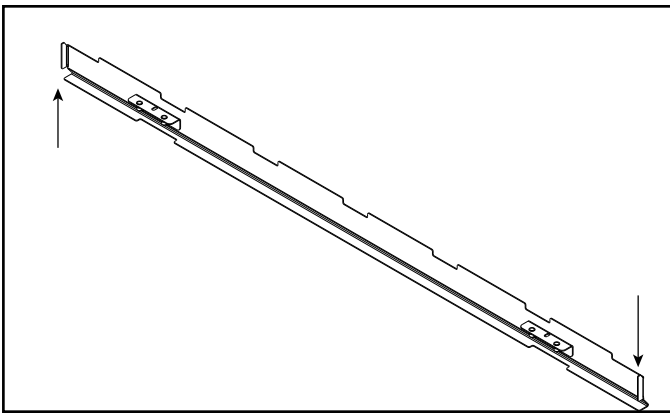

Figure 4.7 Glass Retainer Bar Assembly Locating Tabs
3. Align the glass retainer bar assembly with the appliance retaining channel. Use the locating tabs on the sides of the glass retainer bar assembly to help center left and right. See Figure 4.7.